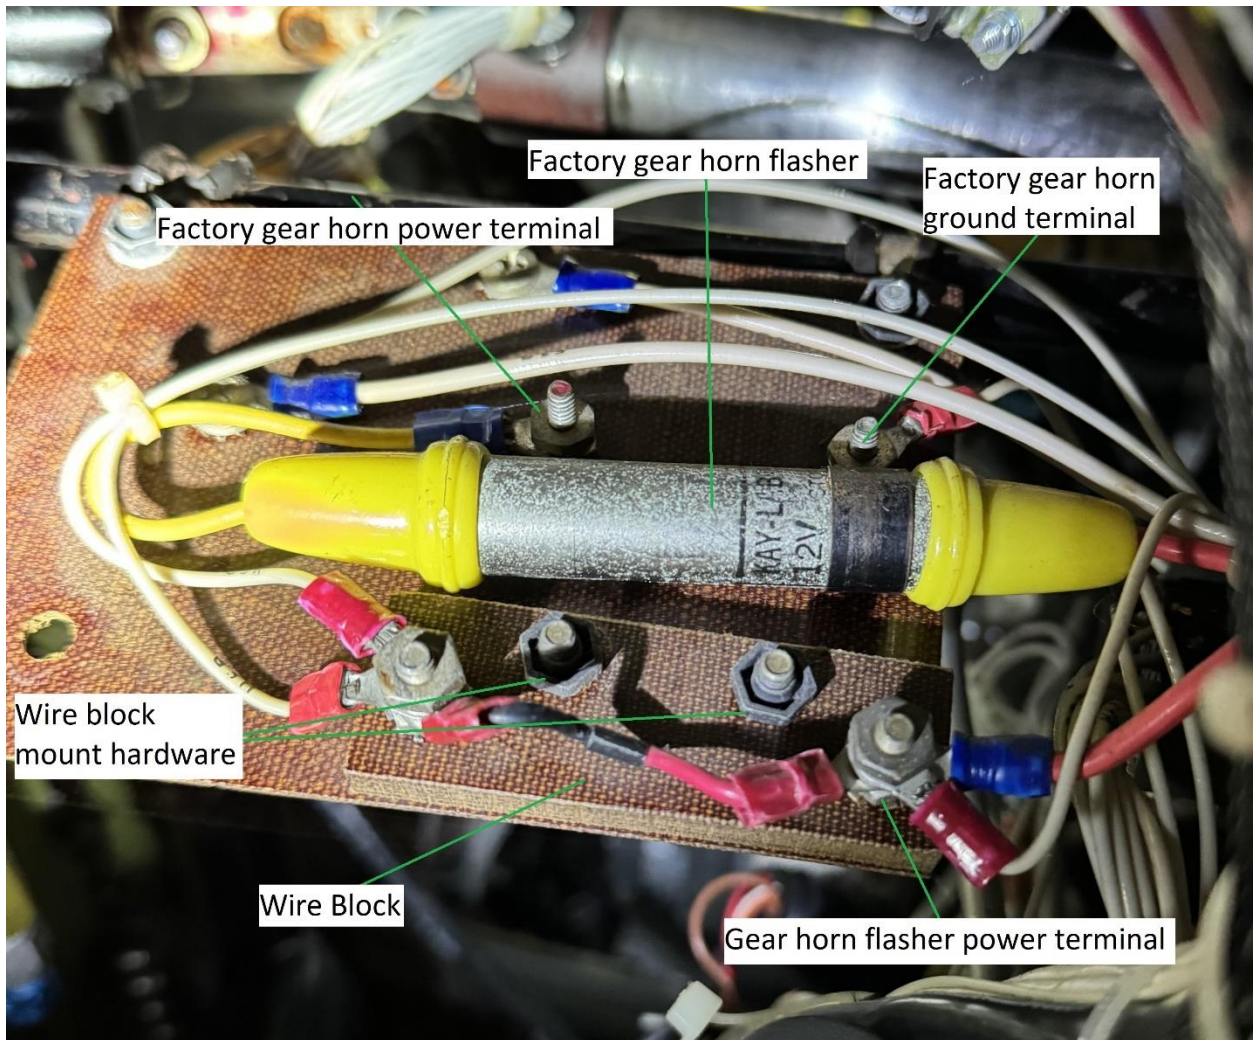

Figure 2-1. PA-34 Factory Gear Horn Installation and Wiring
1. See figure 2-1. Locate factory gear and stall warning horn holder under pilot side instrument panel. Remove factory flasher and gear horn.